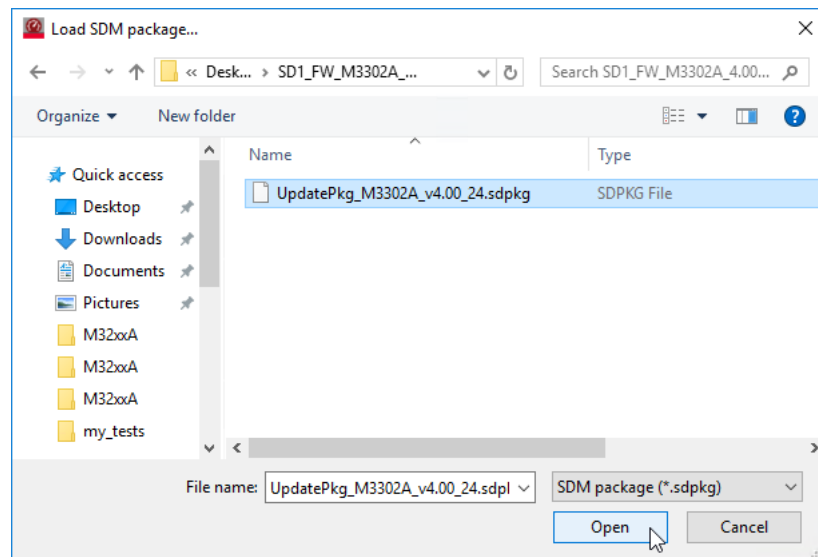

Figure 36 Accessing firmware update file from Load SDM package window
- **Load update package...**—In case your machine is offline, that is, does not have an active network connection, this feature is useful to load an updated and pre-saved firmware package so that you can still proceed with firmware updates on one or more connected M3xxxA modules. Click **File > Load update package...** to access the **Load SDM package...** window, as shown in Figure 36. Navigate to the folder where the firmware update file is saved. Open the required SDM package file with extension *.sdpkg. You may proceed with firmware update on the module which the SDM package file corresponds to.